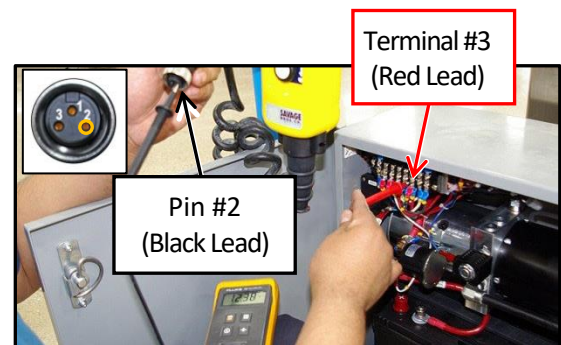

Figure 81 – “REVERSE” Position
3. Place the red multimeter lead on **terminal #3** on the terminal strip. Place the black multimeter lead on **pin #2** on the coil cord connector (Figure 81). The voltage reading on the multimeter needs to be 0V. Select the **“REVERSE”** position on the operator control pendant at which point the voltage should go to **12V** or slightly higher.